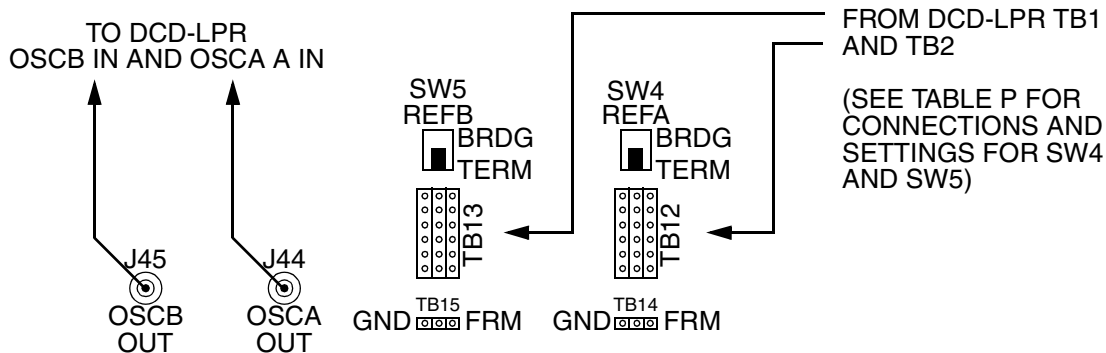

Figure 21. DCD-LPR Connections to DCD-519 HD Rear Shelf
3.20 Two BNC connectors, J44 (OSC A OUT) and J45 (OSC B OUT) (Figure 21), are for connecting to the DCD-LPR shelf. They provide the necessary 5 MHz stratum signal source for the DCD-LPR shelf. To connect the 5 MHz stratum source to the DCD-LPR shelf, the proper filter module and cable must be used. Symmetricom's Isolation Module Kit for the DCD-LPR Shelf (p/n 093-45100-04) contains the appropriate filter module and cables for connecting the signal between the DCD-519 HD shelf and the DCD-LPR shelf.